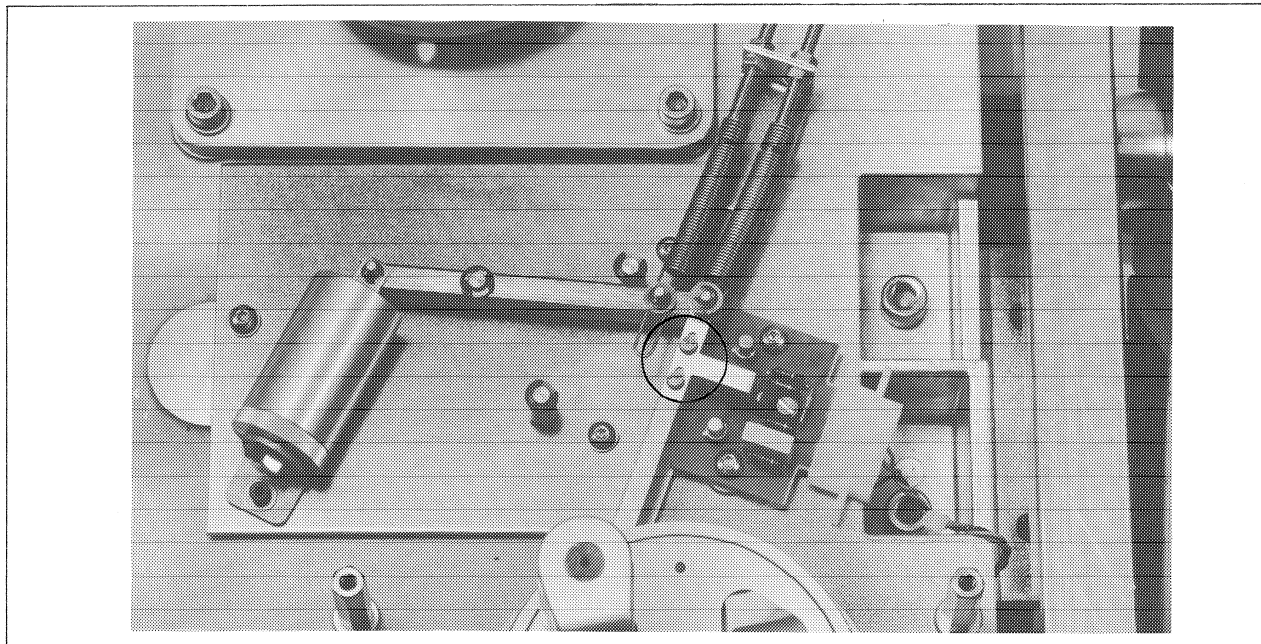

Figure 13
9.**ADJUSTMENT OF THE TAPE TENSION SENSOR LIMIT SWITCHES (Figure 13)****9.1**